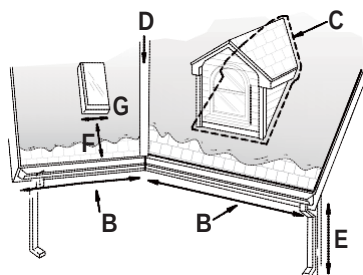

Figure B-3. Roof Measurements
STEP 1. For each area listed in Table B-5, measure the required dimensions (see Figure B-1 on page 17 and Figure B-3) and calculate the length of cable needed. Add each “area” calculation to determine the total cable length needed.
This example shows how to estimate the cable length needed for a limited problem roof area – a skylight (see Figure B-3 on page 17). For this roof, you would like to treat only the problem area underneath the skylight.